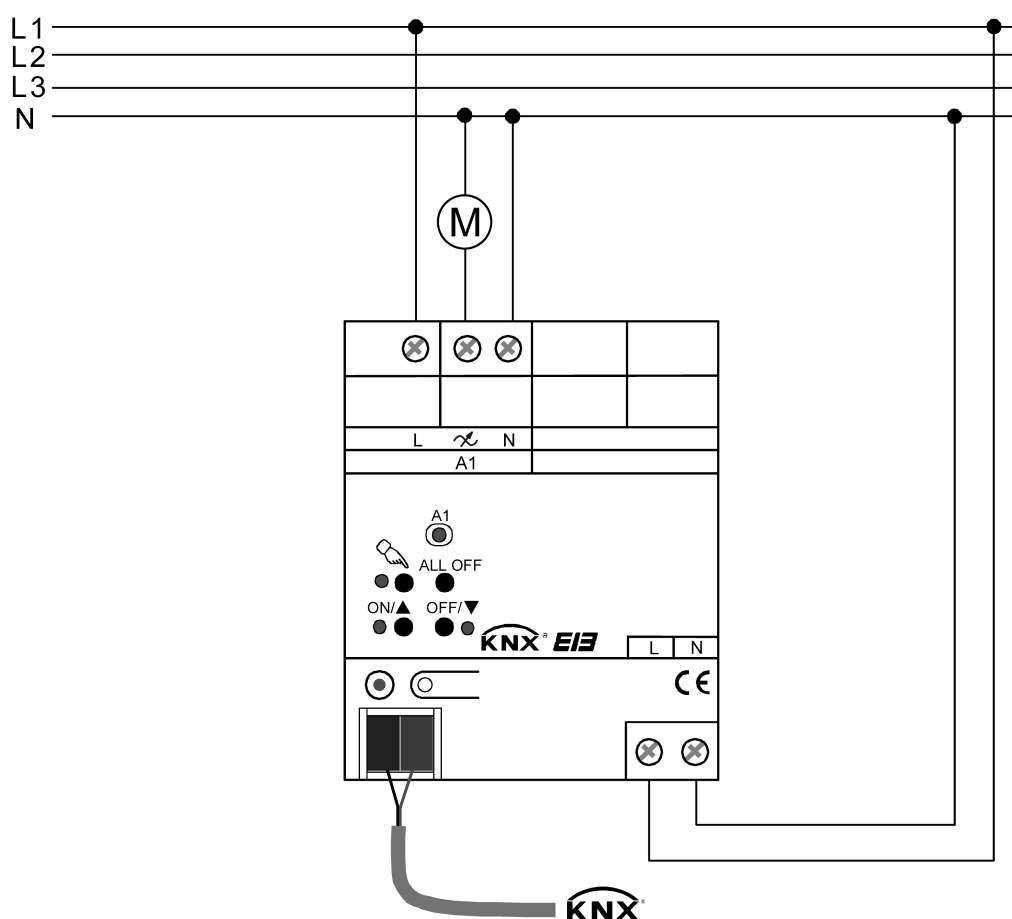

Figure 6: Electrical connection of single-phase electric motors
- Connect single-phase electric motors according to connection diagram (figure 6).